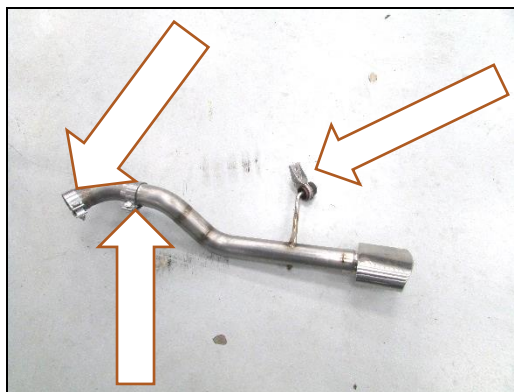

Figure 3
3. On the left side Blackheart tailpipe, install the (x1) OE rubber isolator and (x2) supplied band clamps. Now, slide on the Blackheart Y-pipe (**Figure 3**).